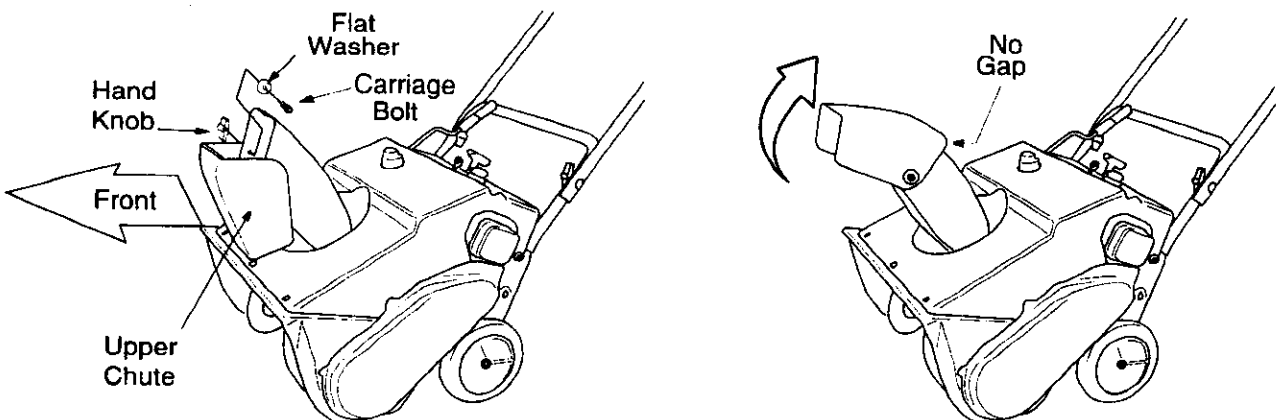

Figure 9
1. Turn the chute crank until the chute facing straight to the front. See Figure 9.